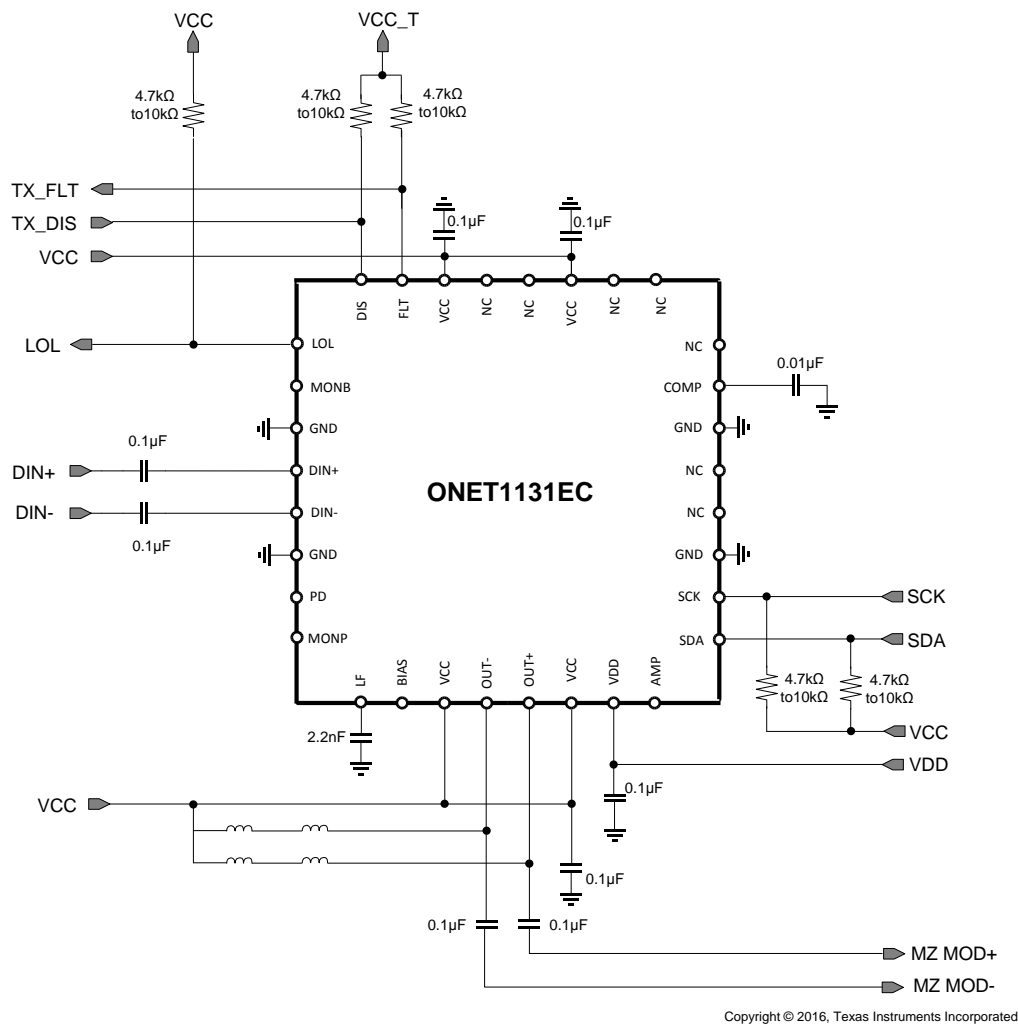

Figure 46. Typical Application Circuit in Differential Mode
The ONET1131EC is designed to be used in conjunction with a Transmitter Optical Sub-Assembly (TOSA). The ONET1131EC, TOSA, microcontroller and power management circuitry will typically be used in an XFP or SFP+ 10 Gbps optical transceiver. Figure 46 shows the ONET1131EC in differential mode of operation modulating a differentially driven Mach Zehnder (MZ) modulator TOSA and Figure 48 and Figure 49 show the device in single-ended output mode with an Electroabsorptive Modulated Laser (EML) TOSA. Figure 48 has the photodiode cathode available and Figure 49 has the photodiode anode available.